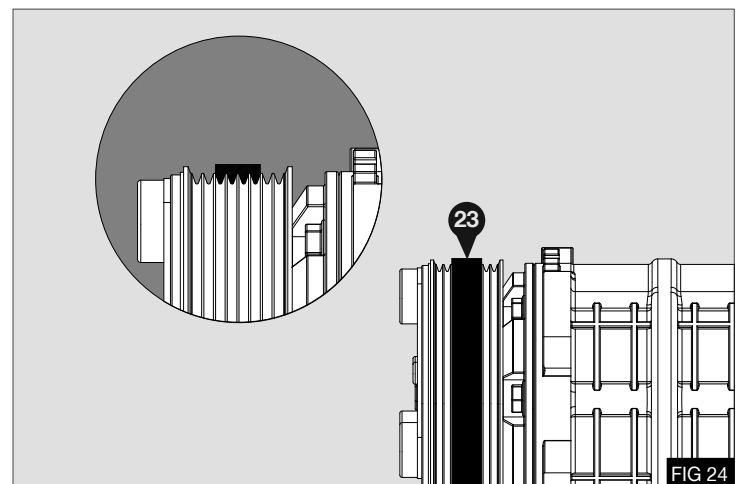

FIG 24
7. Position the drive belt (23) onto the compressor as shown - Fig 24